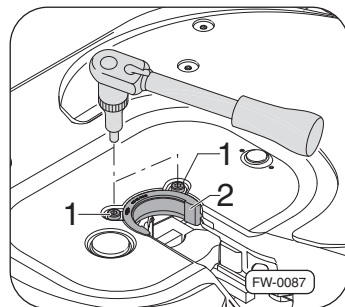

Fig. 28 · Replace wear ring
1. Unscrew and dispose of the screws (2x) Fig. 28, –pos. 1–.
2. Remove the wear ring –pos. 2– by turning it by 90°.